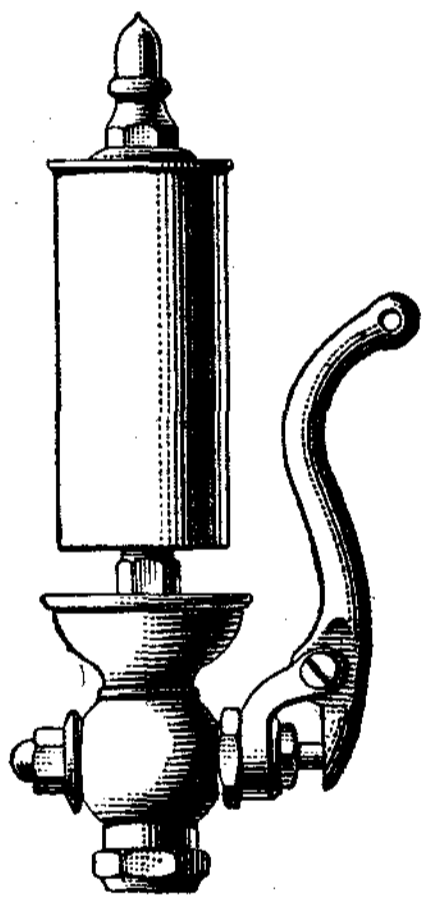

FIG. 17
31. While the steam whistle is not essentially a boiler safety device, yet the fact of its being used in connection with low- and high-water alarms, besides being used for signaling purposes, warrants a description of its principle of action in connection with the subject of safety devices. Two of the most common constructions, as used for signaling, are shown in Figs. 17 and 18. The bell, shown in Fig. 17, is a hollow cylinder, closed at the top and open at the bottom, and held in position by a stud that passes through the center and is secured at the upper end by a screw and a jam nut. The hollow base